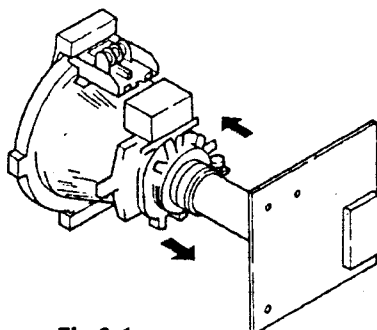

Fig. 3-1
(Fig.3-1 - 3-3)
4. Move the deflection yoke forward, and adjust so that the entire screen becomes red. (Fig.3-1)